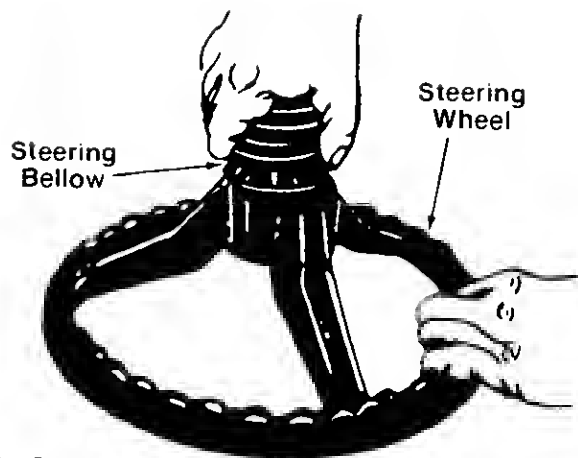

FIGURE 12.
2. Attach one end of steering bellow to the steering wheel as shown in figure 12.